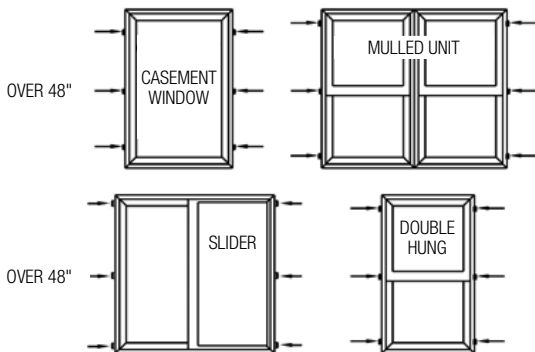

FIG. 13
- J) Shim underneath the window until sill is level. Start with a shim at each corner no more than 1" from jamb corner. Add additional shims spaced evenly from the center of unit, and make sure shims are spaced no more than 16" apart. Failure to evenly support sill can result in improper operation and performance and will void the warranty. See Fig. 13 for shim location guidelines.